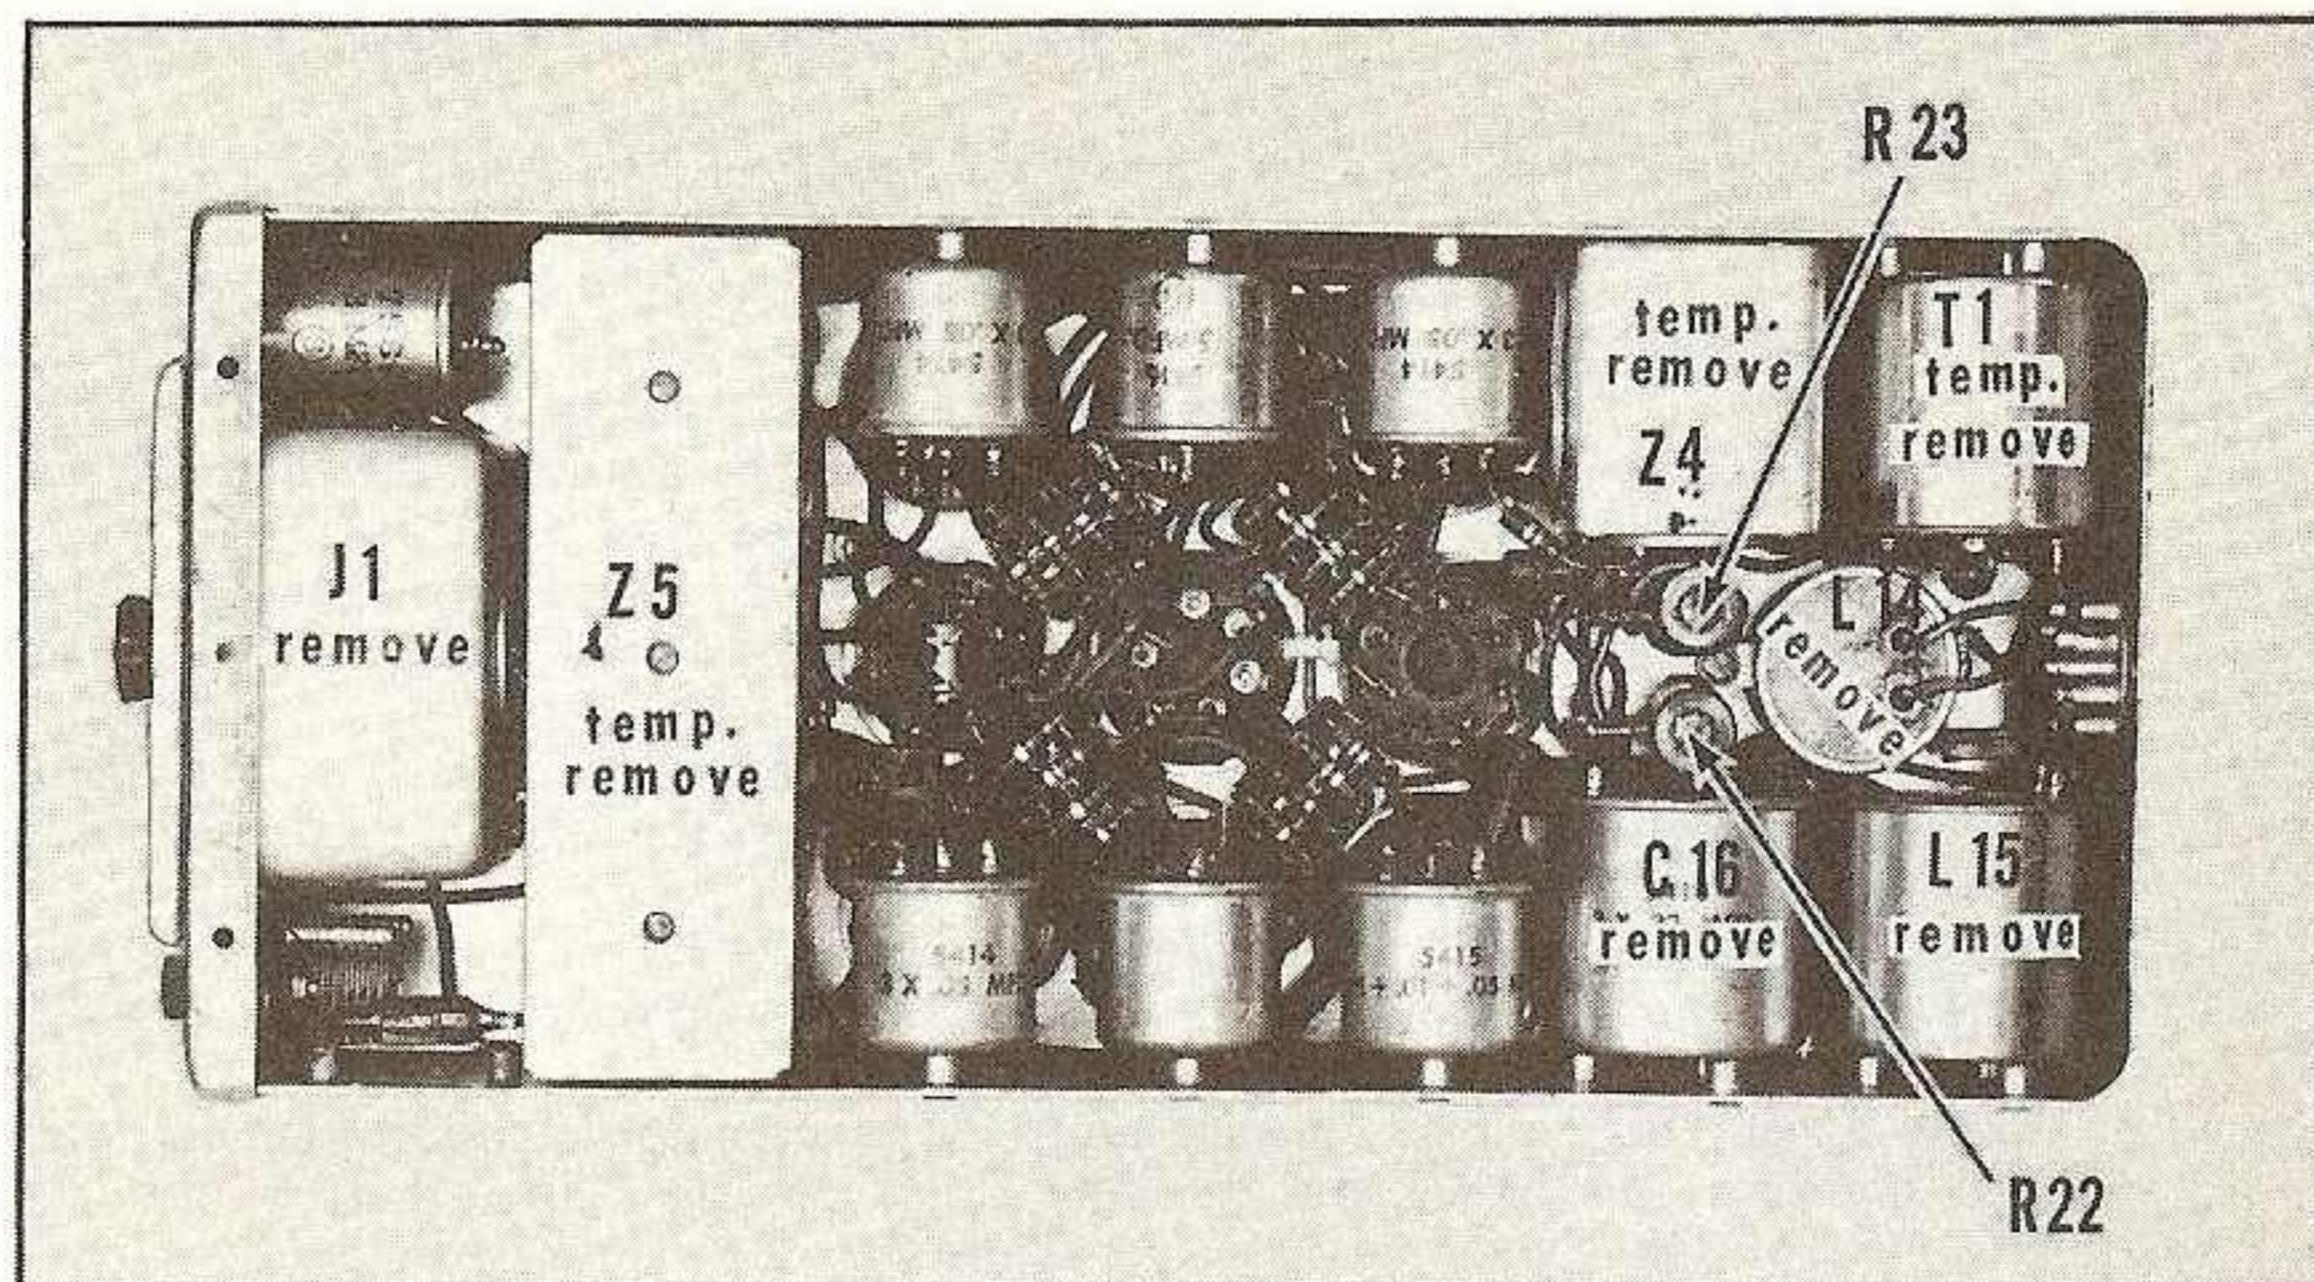

Fig. 9 Under-chassis view of unmodified "Command" set showing placement of the major components. Coil compartment Z-5 of r-f stages is at left of chassis.
- () Temporarily remove the r-f coil assembly Z-5 (Figure 9) by removing the two side screws and pulling up on the coil box. Save the screws.